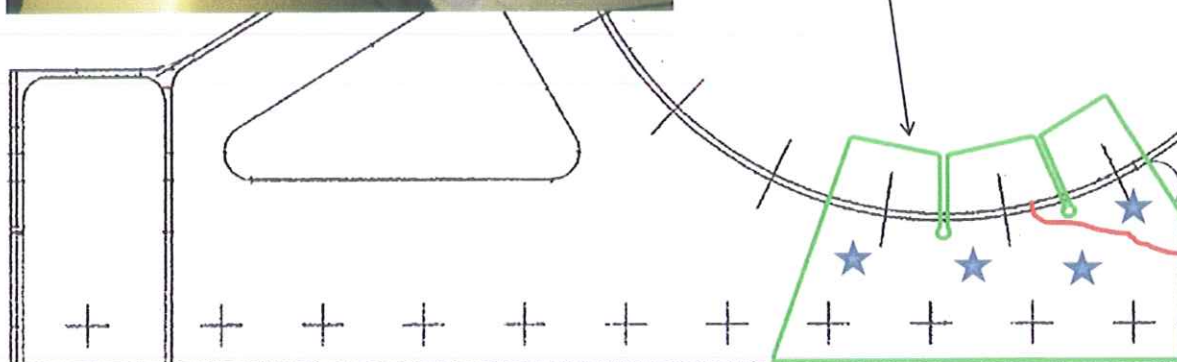

Figure 6 – Outer Finger Doubler
4. Fabricate an outer finger doubler from .020 gauge, 301 ¼ hard stainless steel sheet approximately as shown in Figure 6. Corner radii of the doubler shall be 0.190" minimum. Strive to maintain 2D edge distance and for the fasteners, but the edge distance can be as low as 1.5D if necessary. Bend the "fingers" of the finger doubler to fit over the straight doubler as shown in Figure 6. Temporarily clamp the finger doubler into position and check for fit. Back – drill the holes in the "fingers. Also back – drill the holes for the 3 legacy band fasteners into the doubler at this time using the existing holes as templates. De-burr the fastener holes and the edges of the doubler. Vacuum the area to remove any loose particles.
5. Layout and drill the .128" dia BJ4 field repair rivet locations as shown in either Figure 5 or Figure 6. Strive to maintain 2D edge distance and for the fasteners, but the edge distance can be as low as 1.5D if necessary.
10. Rivet the doublers into place on the bracket as shown in Figure 5 and Figure 6. Use BJ4 field rivets through the "fingers", and fasteners of the same type, size and material as the legacy fasteners in all the other locations. Wet – install the fasteners with MIL-S-8802 sealant.